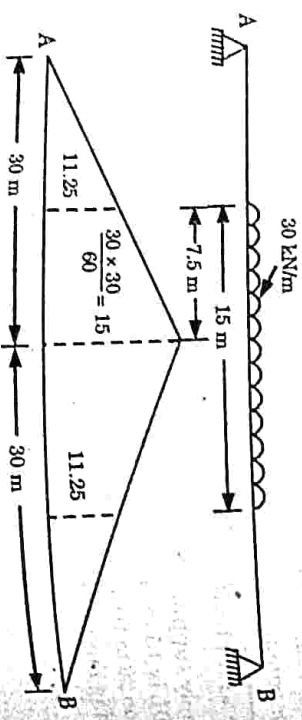

Fig. 4.14.2.
2. I/D for absolute value of maximum bending moment, as shown in Fig. 4.14.2.